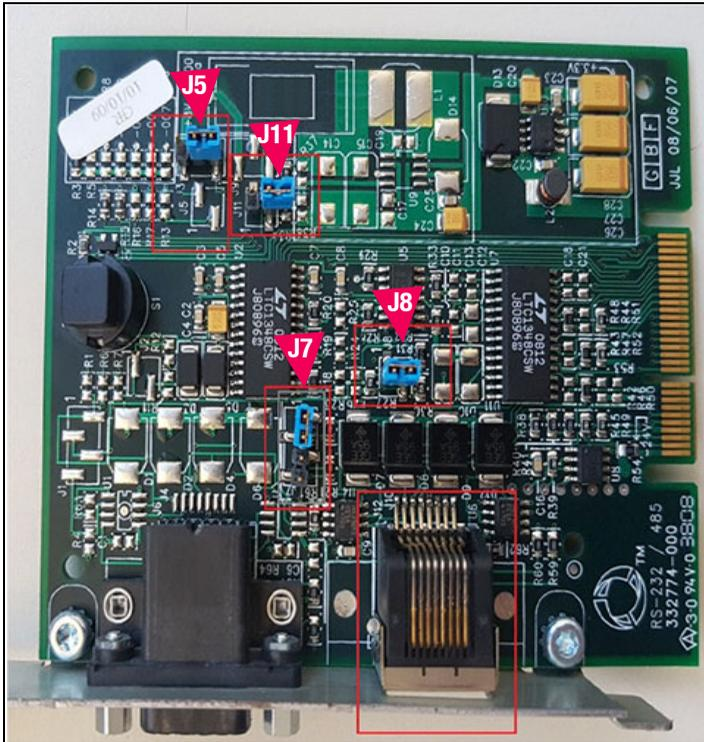

Figure 7. RS-232/RS-485 Comm Module For TLS-450/TLS-450PLUS
The RS-232/RS-485 Comm module (P/N 330020-618 for DIS-51 communication) is shown in Figure 7.
1. The jumpers should be set as shown in Figure 7 above: